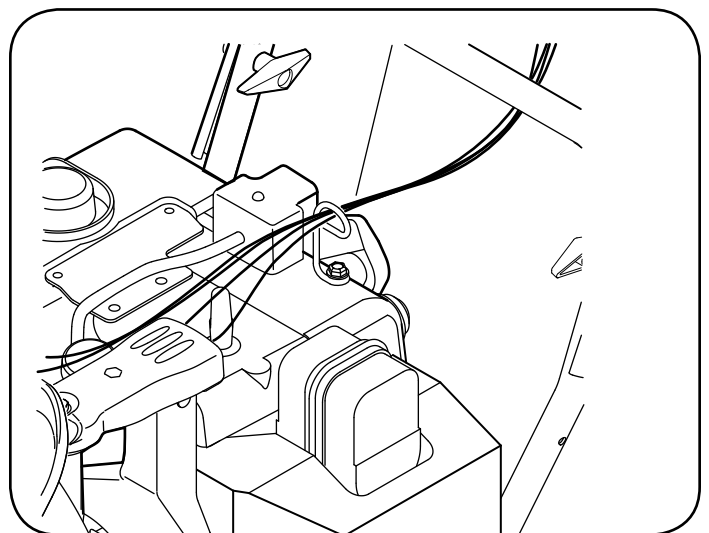

Figure 7
7. Check that all cables are properly routed through the cable guide on top of the engine. See Figure 7.